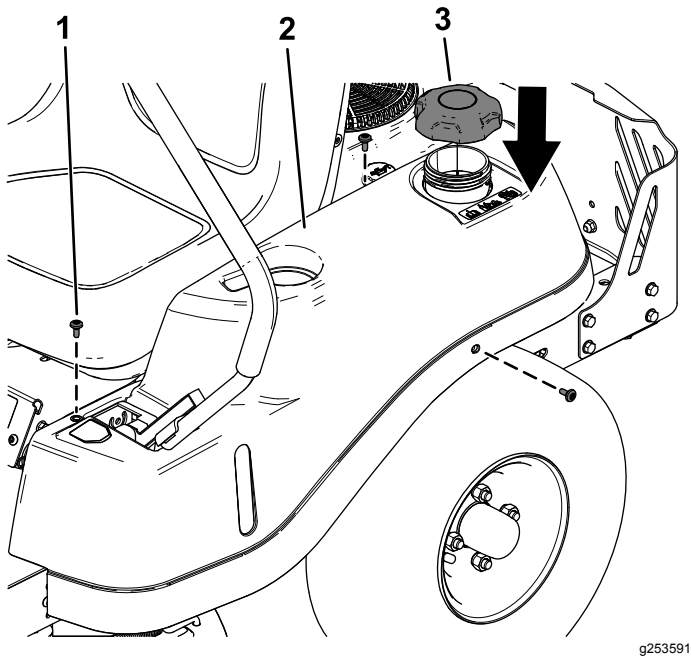

Figure 5
8. Install each pod using the previously removed 3 shoulder screws from each side (Figure 5).
Install the previously removed fuel-tank cap on the left pod (Figure 5).